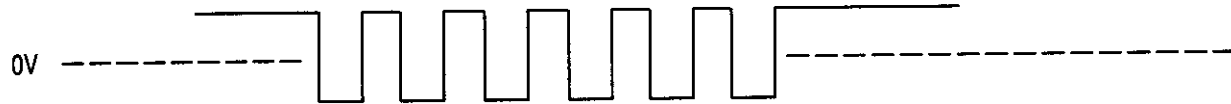

Figure 5
6.1. Half-Step/Full-Step Signaling (Figure 5)